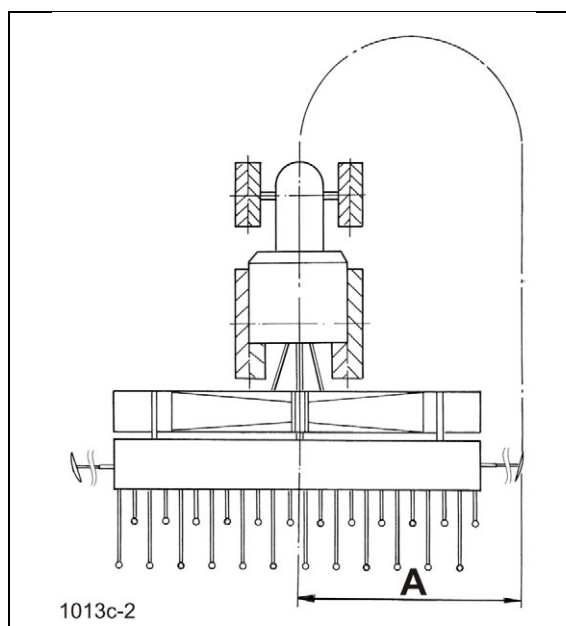

Fig. 153
5. Set the track marker length to distance "A" (see table, Fig. 153, below).